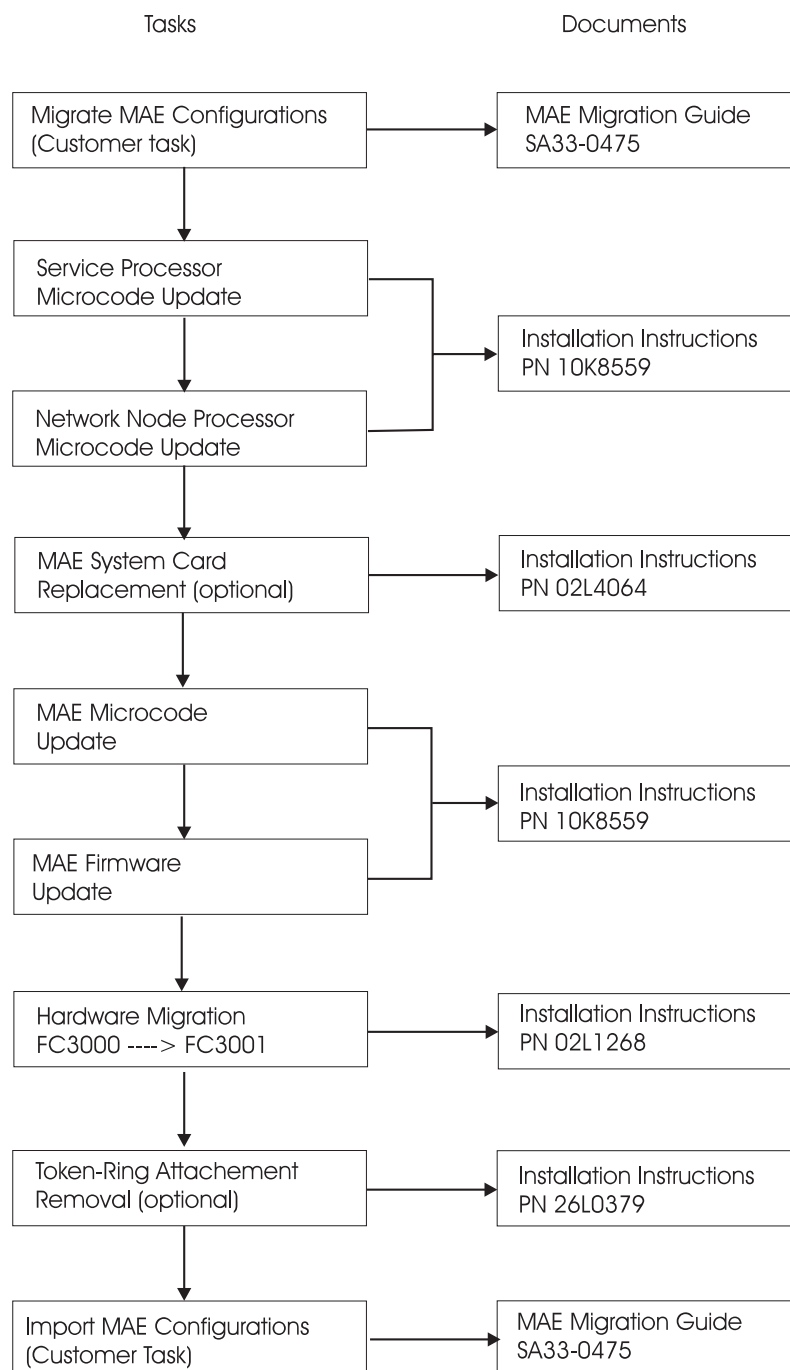

Figure 1. MAE FC 3000 to 3001 Migration Scenario
- Familiarize yourself with the purpose and details of the installation instruction before negotiating machine time with the customer (refer to Figure 1 on page 8).
If you are migrating a MAE from FC 3000 to FC 3001, refer to Figure 1 on page 8 to get the sequence of the installation tasks and the documentation to be used.